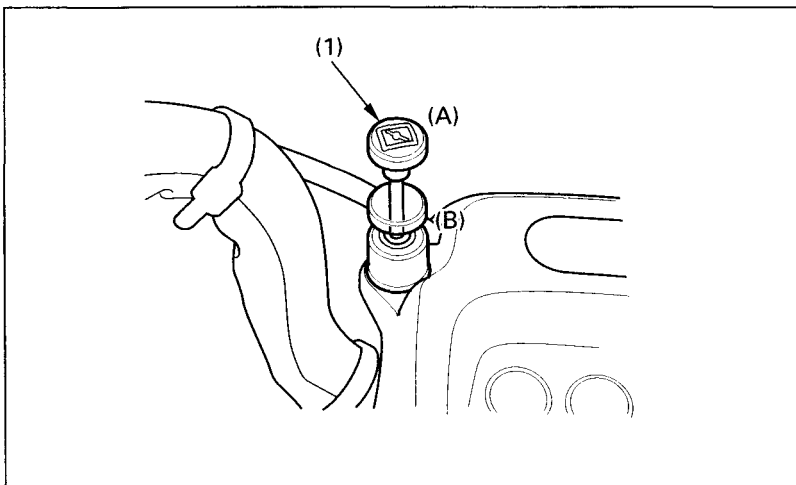

Fig. 2-6
The choke knob (Fig. 2-6) is located above the indicator lamp. The choke has two positions: fully ON (A) and fully OFF (B).